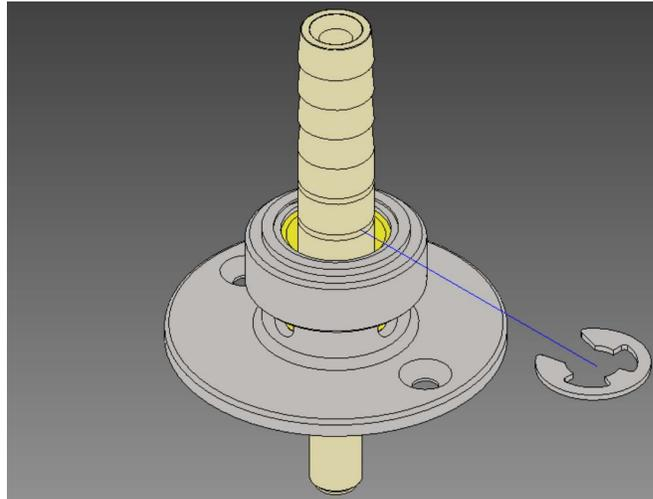

FIGURE F. 8. – INTERNAL E-CLIP REMOVAL
8. Remove the internal E-Clip (see Figure F.8.).